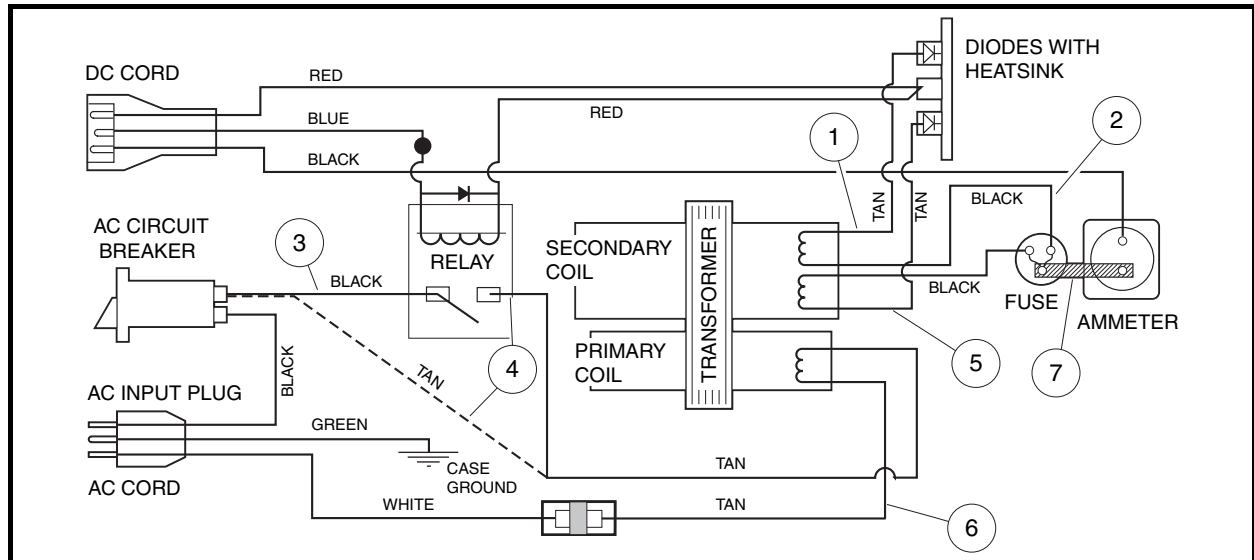

Figure 3-22 Transformer Test Wiring Diagram
- 5.2.1. To bypass the relay, remove the black wire (3) from the AC circuit breaker and disconnect the tan wire (4) from the relay. Connect the tan wire (4) to the AC circuit breaker (Figure 3-22, Page 3-23).
6. If the circuit is not complete, check the wiring of the AC cord, transformer primary coil wires, and internal AC circuit breaker (**Figure 3-22, Page 3-23**).
3. Disconnect transformer secondary coil wires (1 and 5) from the heatsink (**Figure 3-22, Page 3-23**).
- 4.1. To bypass the relay, remove the black wire (3) from the AC circuit breaker and disconnect the tan wire (4) from the relay. Connect the tan wire (4) to the AC circuit breaker (**Figure 3-22, Page 3-23**). **See following DANGER.**
9. Connect the AC cord to the wall outlet and monitor the multimeter for the secondary coil voltage. If measured voltage is approximately 85 volts AC or lower for the secondary coil, the transformer is shorted internally and must be replaced (**Figure 3-22, Page 3-23**).
The PowerDrive battery charger transformer has two sets of coils: a primary coil and a secondary coil (**Figure 3-22, Page 3-23**).
3. Disconnect terminals from transformer (tan) primary coil transformer wires (4 and 6) (**Figure 3-22, Page 3-23**).
3. Remove the transformer (tan) secondary coil wire (1) from the upper terminal of the heatsink (**Figure 3-22, Page 3-23**).
4. Remove the other transformer (tan) secondary coil wire (5) from the bottom terminal of the heatsink and place the continuity test clip on the ammeter buss bar (7) (**Figure 3-22, Page 3-23**). Test for continuity between the buss bar and each of the secondary coil wires (tan). The tester should indicate continuity between the buss bar and both of the secondary coil wires. If tester does not indicate continuity on both secondary coil wires, replace transformer. Ensure that the fuse is intact and not blown.
3. Remove black (3) and tan (4) wires from contact terminals of the relay (**Figure 3-22, Page 3-23**). Place continuity test probes on contact terminals of the relay. The tester should indicate no continuity. If tester indicates continuity, the relay contacts have failed closed and the relay must be replaced.